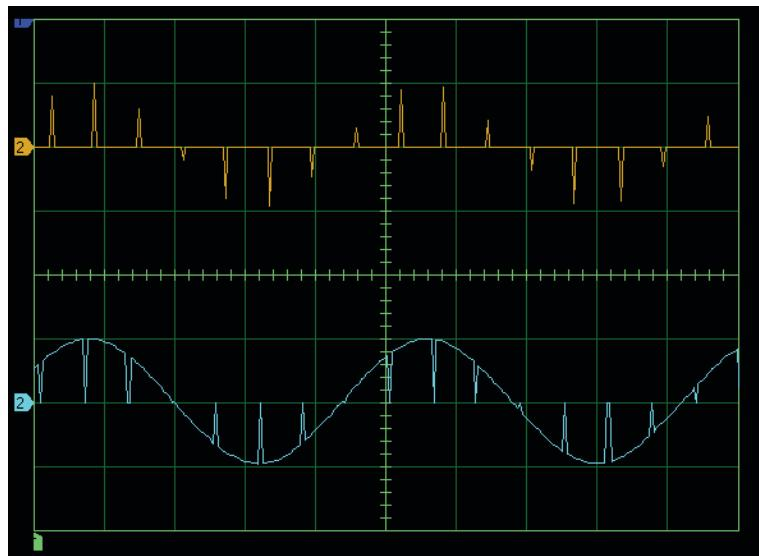

Figure 2-10. Natural sampling – narrow and wide sampling pulse.
- 15.** Observe the waveform of the PAM signal with natural sampling with narrow pulse (5% Duty Cycle) and with wide pulse (95% Duty Cycle). You can display both output signals on the oscilloscope simultaneously by using Memory location M1. The resulting output should resemble Figure 2-10